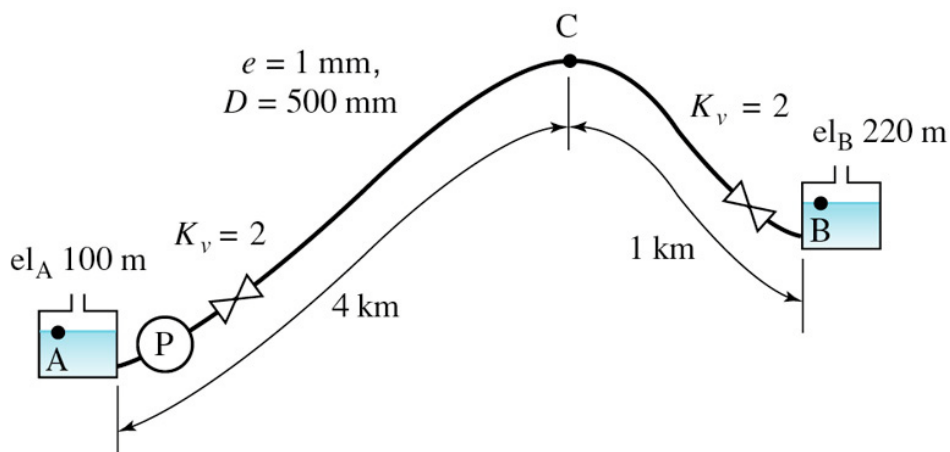

Figure 10 / Rajah 10
7. Gasoline is being pumped at 400 L/s in a pipeline from location A to B as shown in Figure 10. The pipe follows the topology as shown, with the highest elevation shown at location C. The only contributions to minor losses are the two valves located at the ends of the pipe. If $S = 0.81$, $v = 4.26 \times 10^{-7} \text{ m}^2/\text{s}$, $p_v = 55.2 \text{ kPa}$ absolute and $p_{atm} = 100 \text{ kPa}$, then: